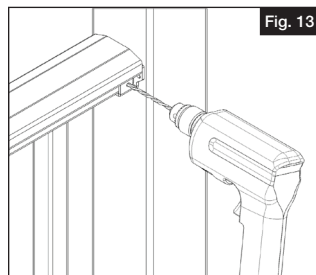

Fig. 13
- b. Using a $\frac{5}{32}$ " drill bit, predrill the top rail in the two locations on the metal bracket. Install #10 x1" screws in pre drilled holes of each of the metal brackets (Fig 13).